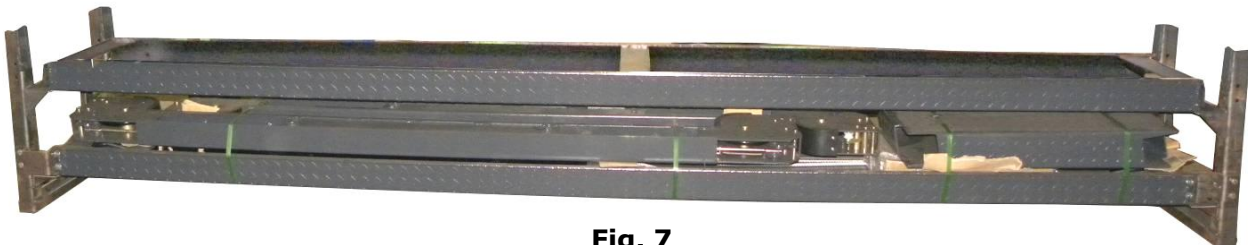

Fig. 7
3. Take off the drive-in ramps and columns (See Fig.7).